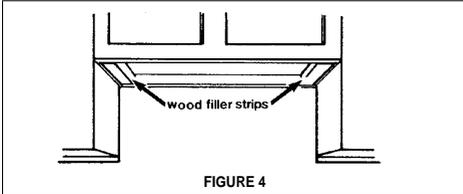

FIGURE 4
3. If the cabinet bottom is recessed, wood blocks need to be installed to insure proper alignment with the cabinet bottom. Wood blocks should be flush or recessed $1/16''$ to $1/8''$ within the cabinet bottom as indicated in **FIGURE 4**.